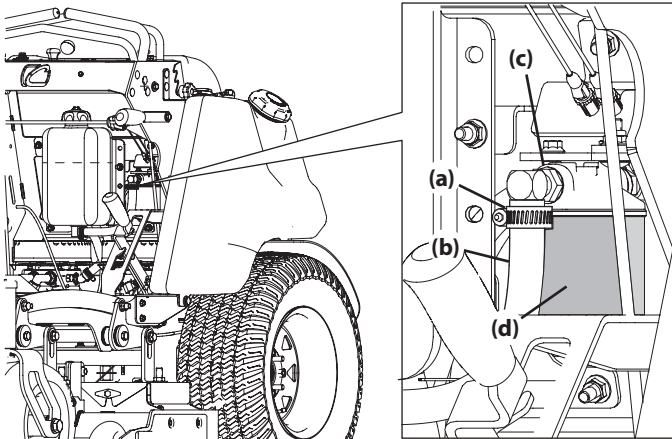

Figure 22
2. Loosen the hose clamp (a) securing the transmission oil hose (b) to the transmission oil filter assembly (c). See Figure 22.